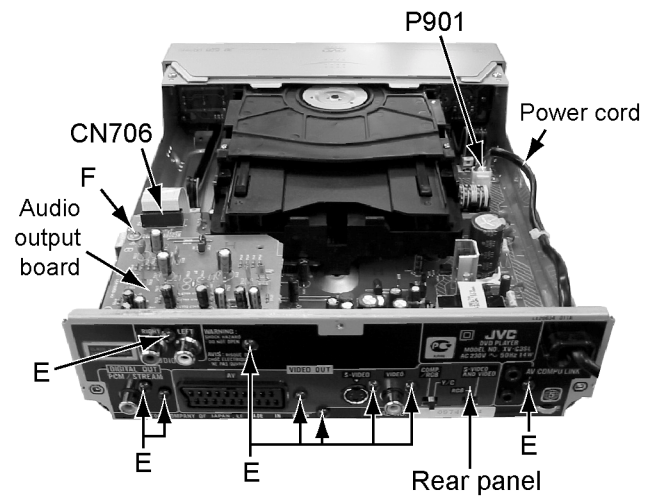

Fig.7
2.1.5 Removing the rear panel and audio output board (see Fig.7)